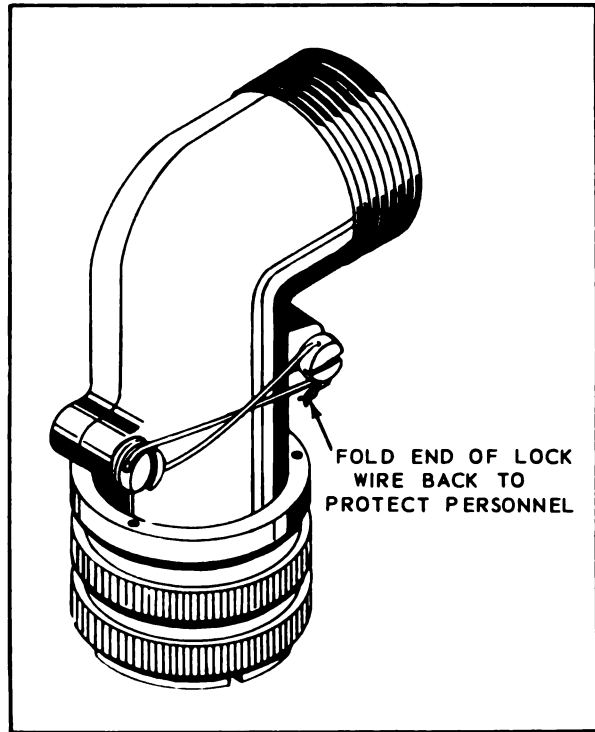

Figure 3-49. Safety Wiring Class B Connector
n. Safety wire the split back shell holding screws, if required by engineering, by passing the wire through screw heads (See figure 3-49), crossing it and completing with a twist.